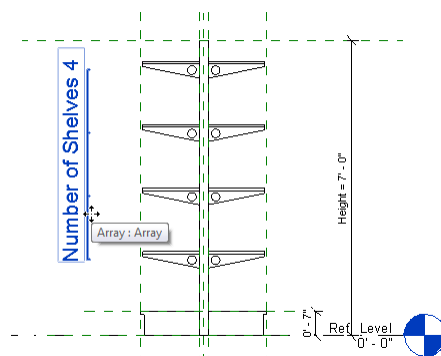

Figure 36
9. Label the array with the same **Number of Shelves** parameter (see Figure 36).